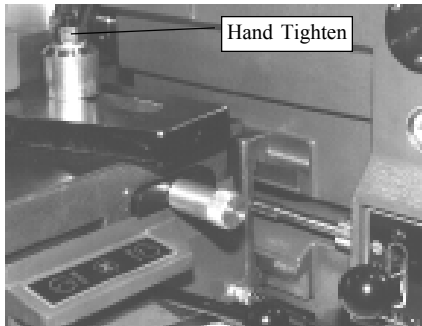
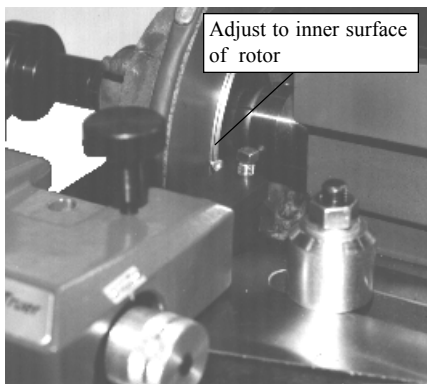

Figure 34
Figure 35
8. Now that the Rotor-Truer and cross slide surfaces have been properly cleaned, place the Rotor-Truer on the cross slide over the adjustable pivot post. Install a spacer, washer and nut. Hand tighten. **See Figure 34.** Adjust the cutting tips to approximately opposite each other and then tighten the nut with the spanner wrench, locking the rotor-truer in the operating position. **See Figure 35.**